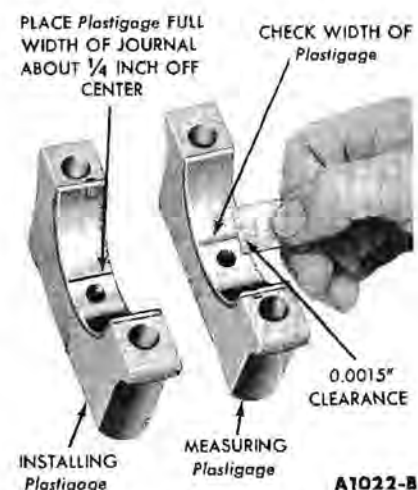

FIG. 40—Installing and Measuring Plastigage—Engine in Chassis
9. Place a piece of Plastigage on the bearing surface the full width of the bearing cap and about 1/4 inch off center (Fig. 40).